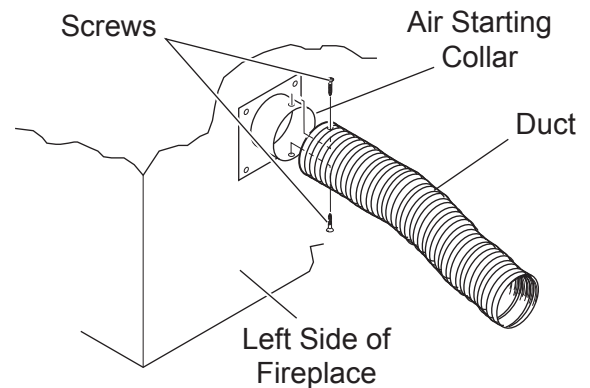

Figure 33 - Attaching Outside Duct to Starting Collar
4. Attach outside duct to starting collar with duct clamp or screws. *See Figure 33.*
6. Select and cut a piece of duct long enough to attach to the fireplace and stick out at least 3" beyond the face of the wall to which the AK-4 inlet air vent will be attached. Cut duct with a standard pocket knife. *See Figure 33.*